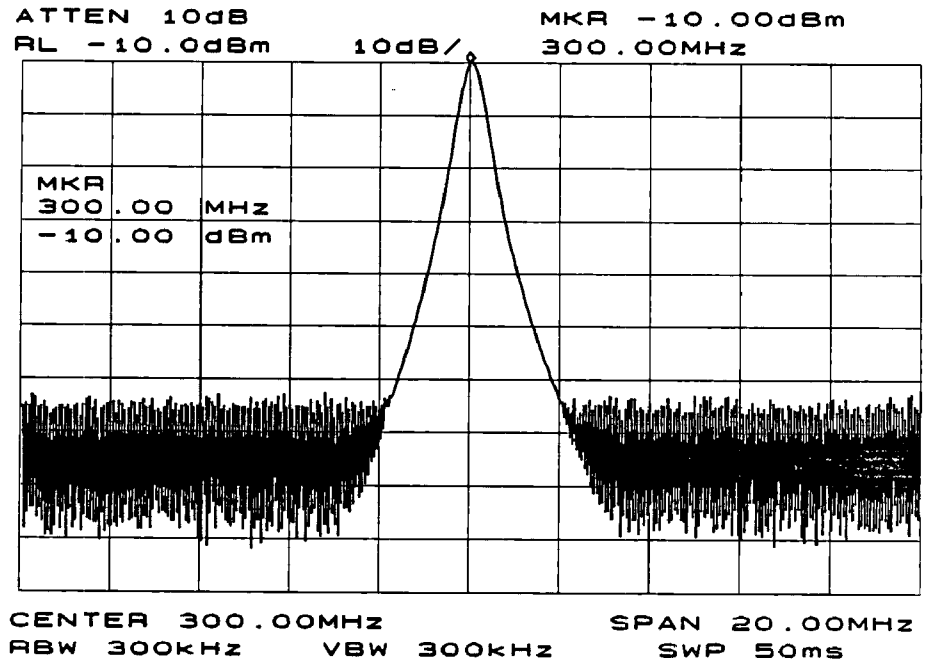

Figure 1-8. Activated Normal Marker
4. Activate the marker. Press **ON** which is located in the MARKER section of the front panel. This places a marker at the center of the trace (in this case, at the peak of the signal) and completes the measurement. The marker reads both the frequency and the amplitude, and displays these values in the active function block. In this case, the marker reads 300.00 MHz and -10.00 dBm, as shown in Figure 1-8.